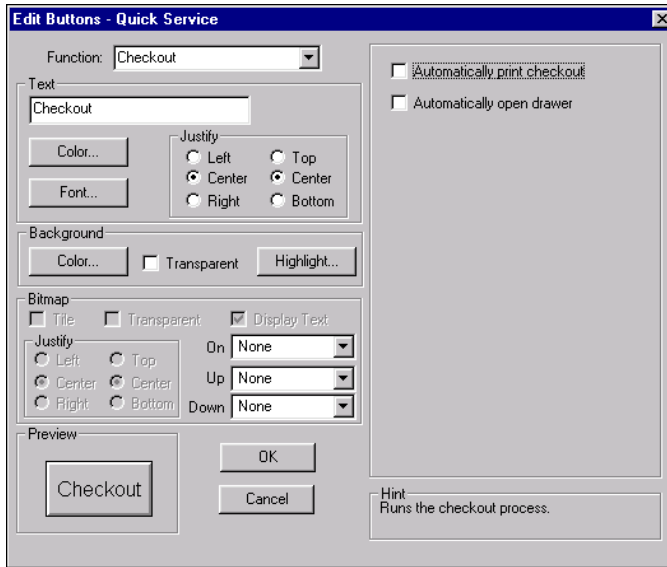

Figure 5-79 Checkout Button Function
1. Select **Checkout** from the **Function** drop-down list. Additional options display, as shown in Figure 5-79: